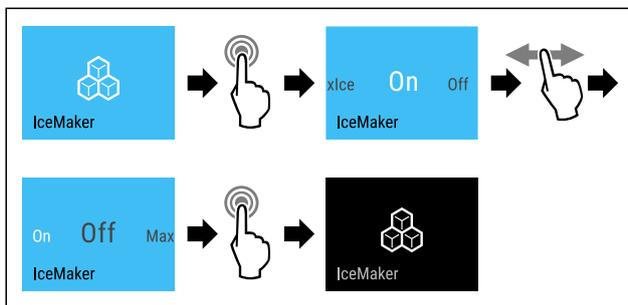

Fig. 23 Example illustration of the active IceMaker function
- ▶ Complete the steps (see Fig. 23).